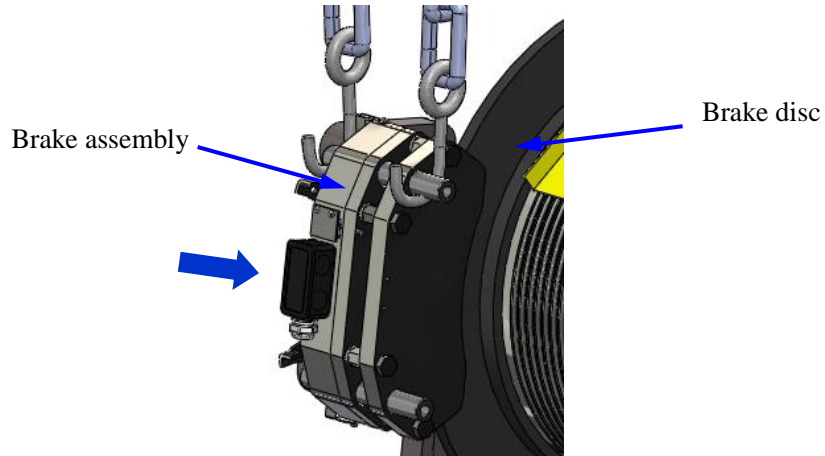

Figure 28: Brake installation
1. Open the brake. Install the brake assembly on the brake disc properly. See Figure 28.